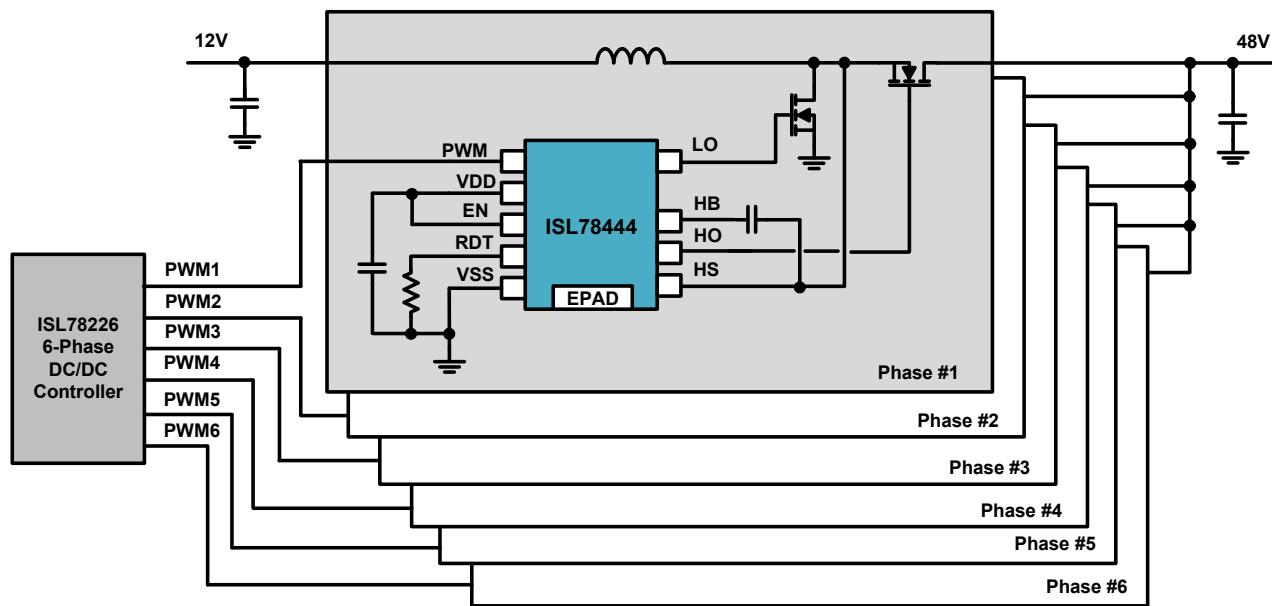

Figure 1. ISL78444 Typical Application Block Diagram
- (1) The programmable dead time of the HO and LO signal is set to 110ns with a 10kΩ resistor from the RDT pin to GND (note the ISL78444 also has an inherent adaptive dead time). To change the dead time, replace the resistor at R₁₀ with the value corresponding to the desired dead time. See Figure 1.
- (2) Ensure that the enable switch (SW₁) is set to the off position.
- (3) Connect a power supply capable of 48V and 10A to VBAT_48V terminals {J₁₉(+) and J₂₀(-)} . Turn on supply to 48V.
- (4) Connect 8V to 18V supply to VDD terminals on board {J₂(+) and J₃(-)} . Turn on supply to 12V.
- (5) Connect a 0V to 5V (PWM pin capable of voltage up to VDD) <500kHz square wave signal to PWM BNC connector J₁₃.
- (6) Toggle enable switch (SW₁) to the on position.
- (7) Verify HO and LO outputs are switching. LO switches between GND and VDD (12V for this example) phase inverted from PWM. HO switches between GND and V_{HB} + V_{BRIDGE} (48V in this example) in phase with PWM.